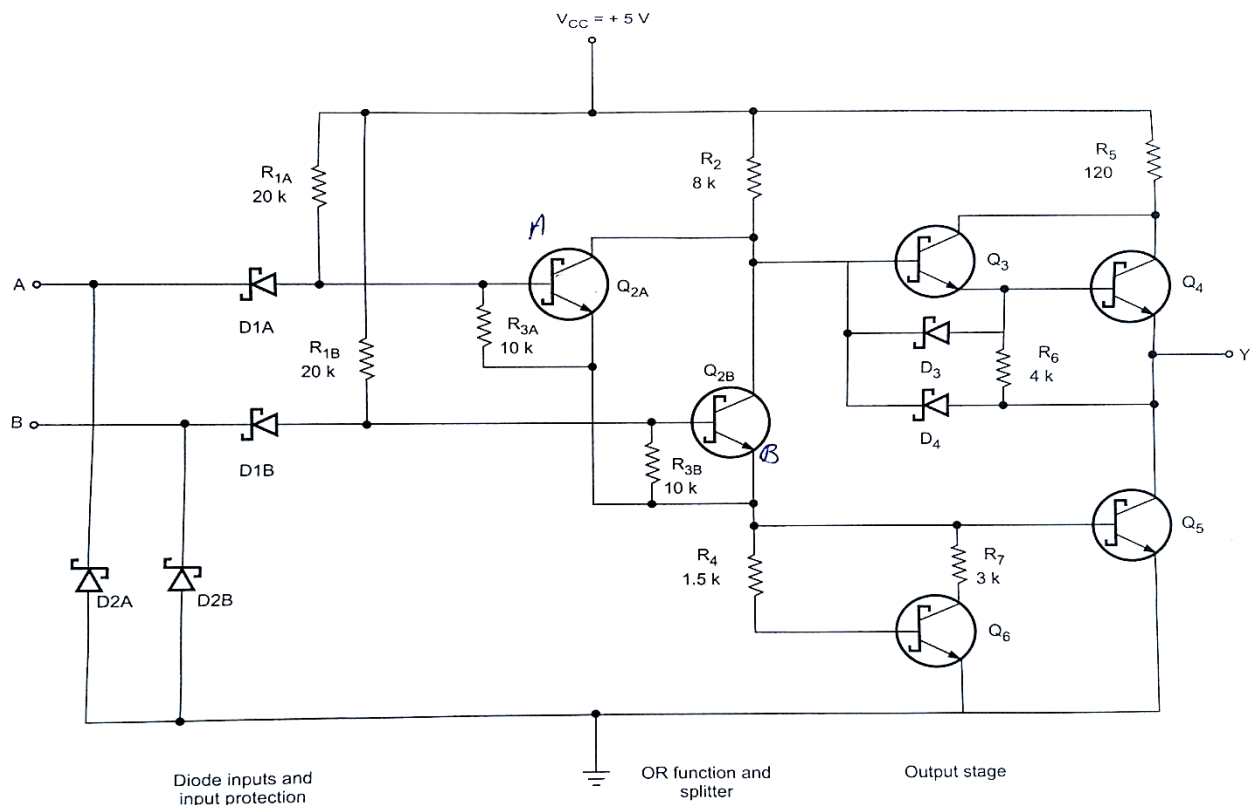

Figure 1.21: Circuit diagram of a two-input LS-TTL NOR gate
- The figure 1.21 Shows the circuit diagram for an LS-TTL two-input NOR gate (74LS02). The circuit is basically divided into three functional parts.